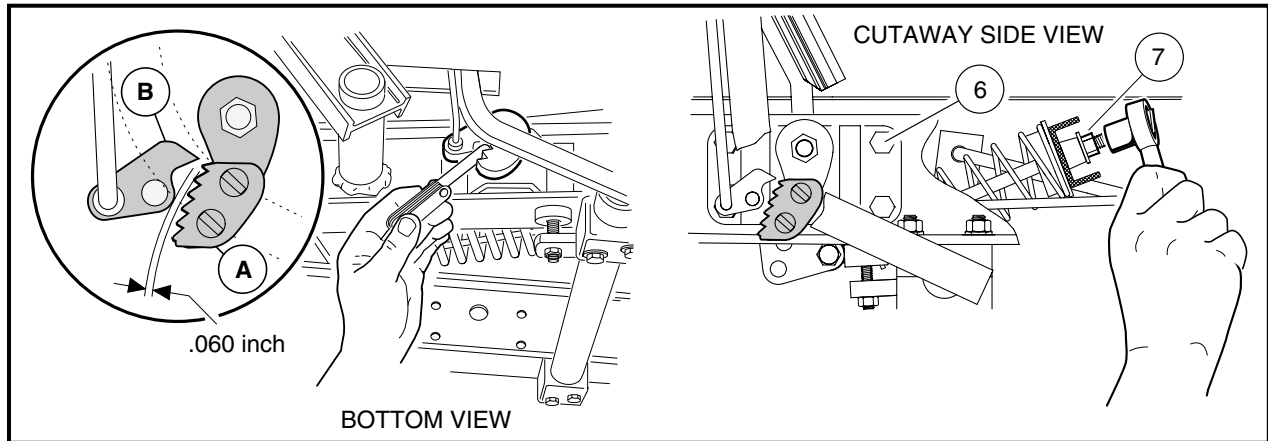

Figure 5-13 Park Brake Ratchet/Pawl Gap Adjustment
- 3.2. Adjust retaining nut (7) on spring support rod until there is a 0.060 inch (1.5 mm) gap between the pawl and the tips of the ratchet teeth. Use a feeler gauge to verify the gap (**Figure 5-13, Page 5-13**). The gap should be consistent through range of pawl movement. If the gap is not consistent, loosen the four bolts (6) securing the accelerator pivot rod supports and adjust the supports. If the gap becomes smaller as the park brake pedal is depressed, move the pivot rod supports slightly rearward until the gap is consistent. If the gap becomes larger as the park brake pedal is depressed, move the pivot rod supports slightly forward until gap is consistent. **See following NOTE.**